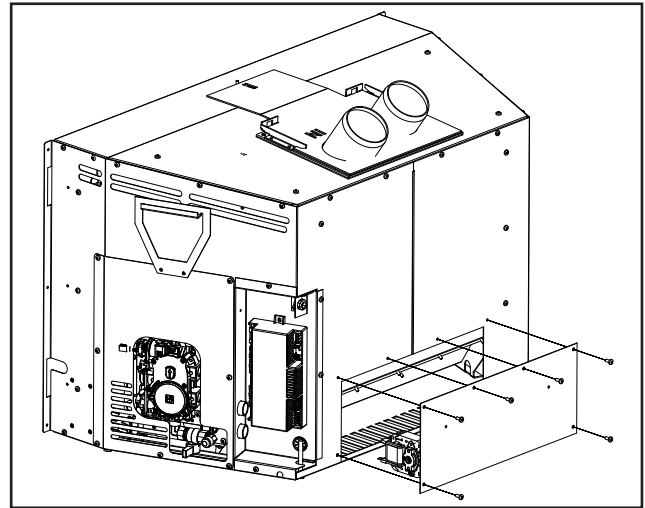

Figure 31: Fan Assembly Removal
2. Remove the six (6) T20 screws that secure the fan assembly to the back of the fireplace (Figure 31)